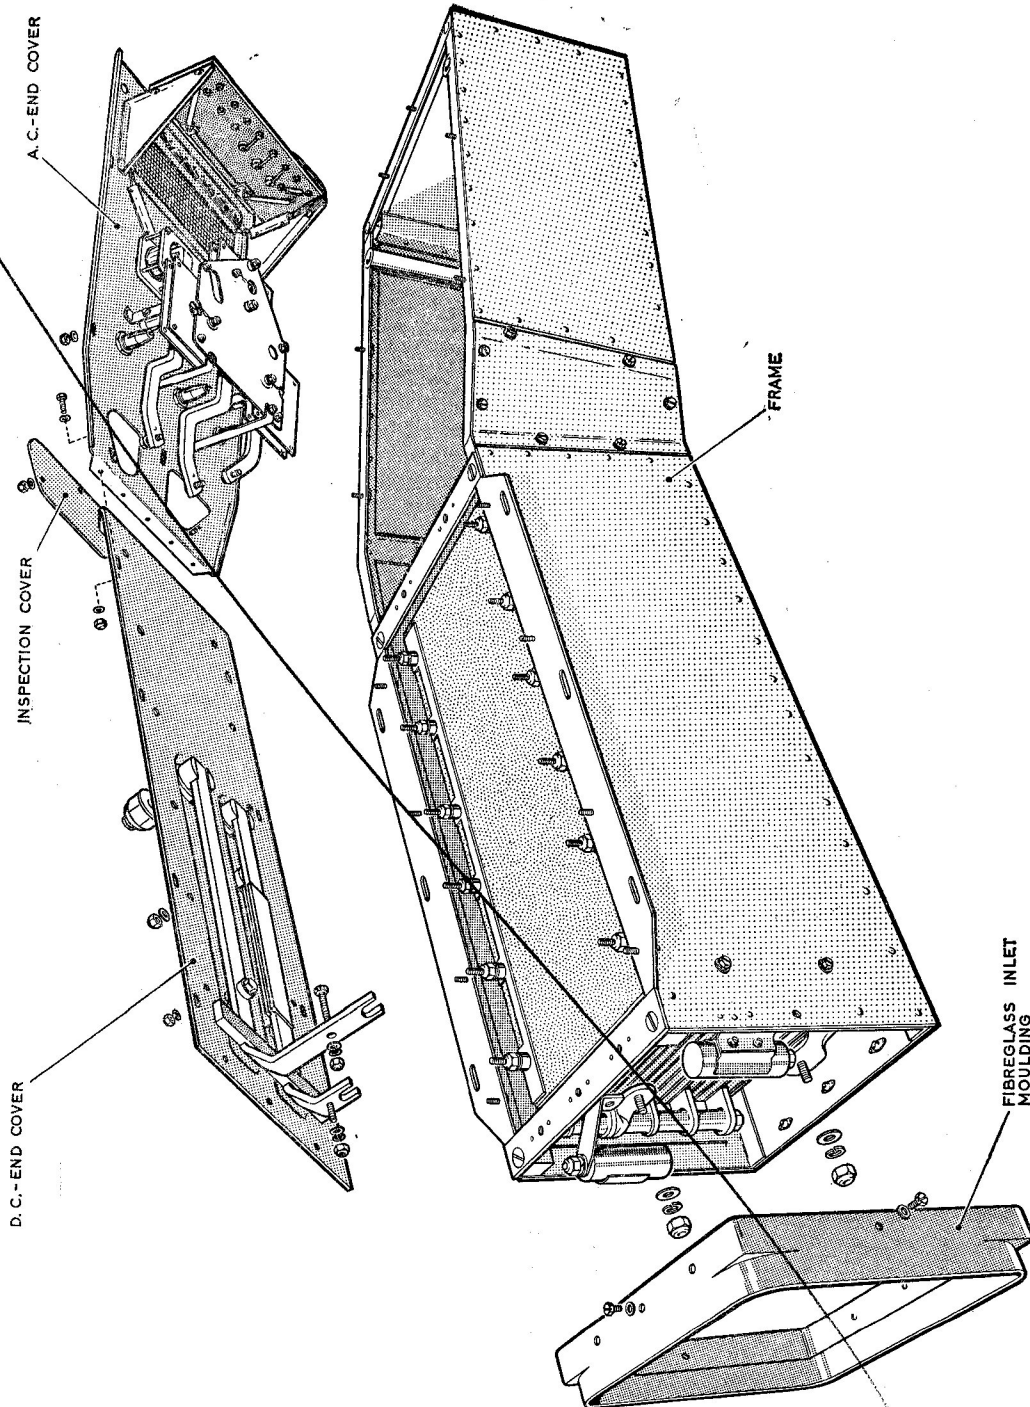

Fig. 3. Exploded view
10. Reference should be made to fig. 3 which shows an exploded view of the control box. It should not be necessary to dismantle the unit completely, normally dismantling should be stopped at the stage necessary for the renewal of unserviceable parts to be made.